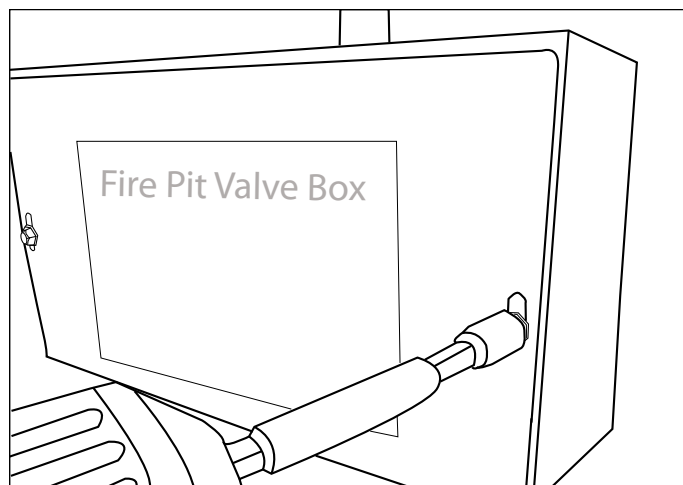

Fig. 25 Removing the cover from metal box.
1. Remove the two screws securing the cover on the control box (See Fig. 25). The cover will slide down exposing the gas valve and control module.